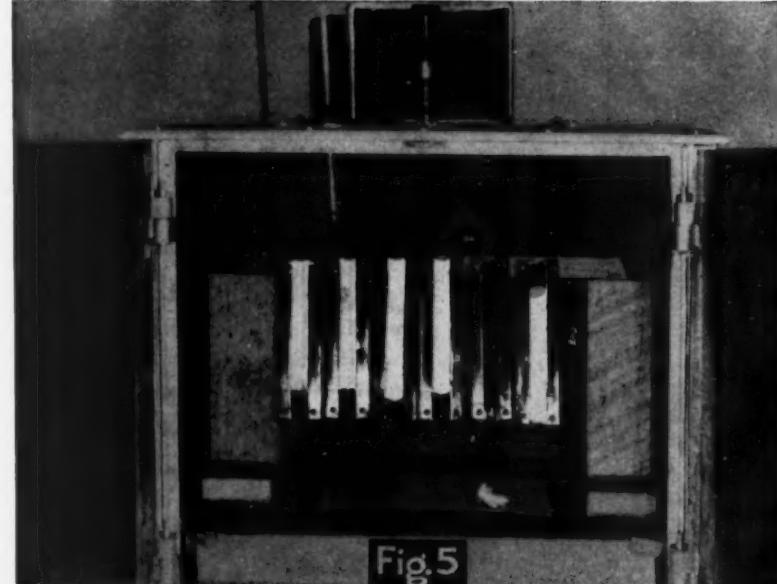

Fig. 5
**Test Procedure:** Prepared specimens are supported in a vertical position in an electric oven as shown in Figure 5. Here they are heated at a constant temperature of  $50^{\circ}$  C. ( $122^{\circ}$  F.) for three hours, after which they are removed and the distance the material has sagged below the reference mark is measured and recorded.